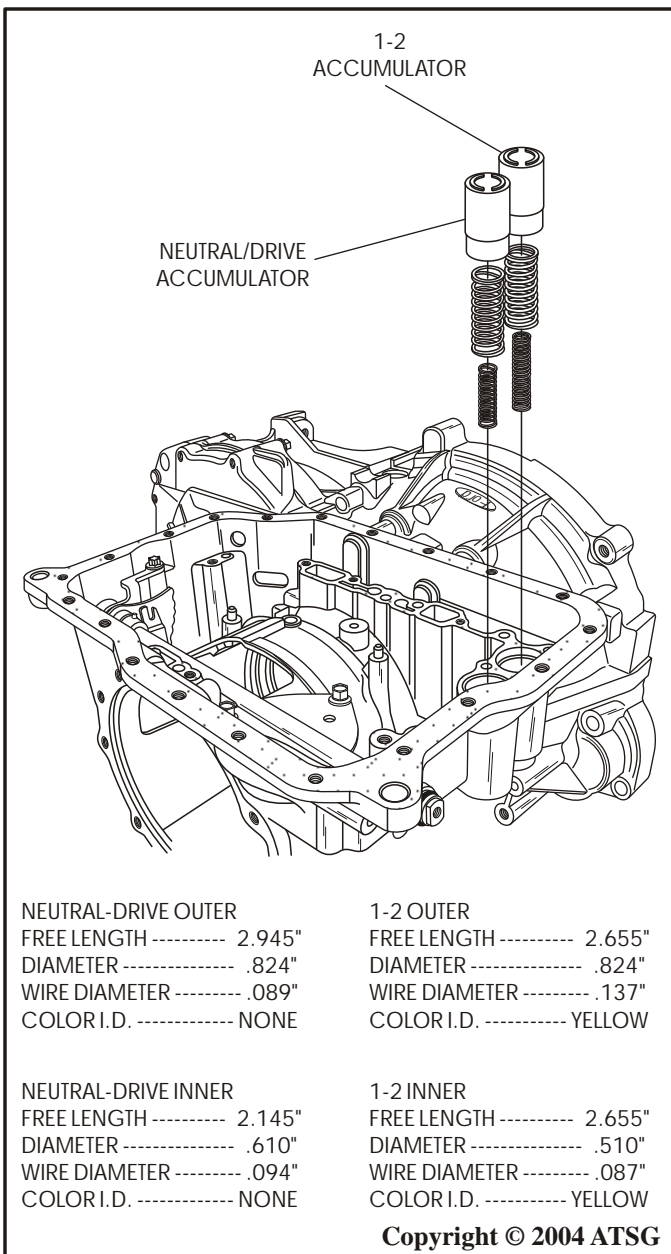

Figure 41
37. Remove the neutral/drive and 1-2 accumulator pistons and springs, as shown in Figure 41.
**Note: Each of the two accumulators have two springs. All four springs are different sizes. Spring specifications are listed in Figure 41.**